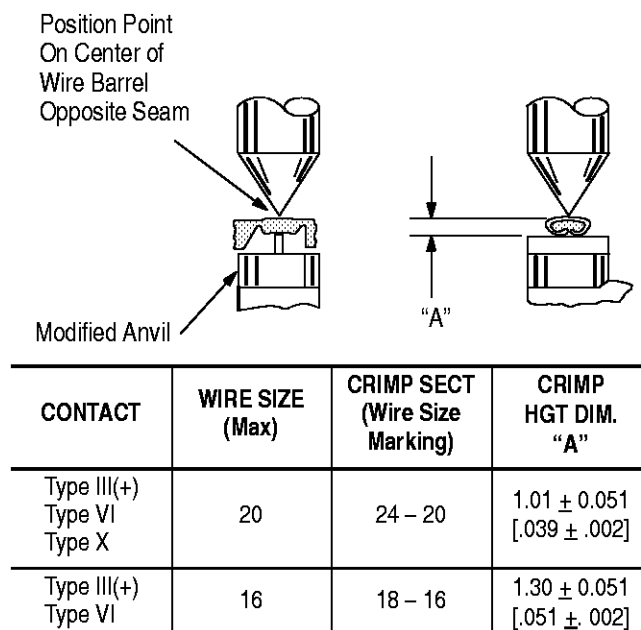

Figure 4
This inspection requires the use of micrometer with a modified anvil as shown in Figure 4. AMP recommends use of Crimp Height Comparator RS-1019-5LP which can be purchased from:
1. Refer to the chart in Figure 4 and select a contact and a wire (maximum size) for each crimp section listed in the chart.
3. Using a crimp height comparator, measure wire barrel crimp height as shown in Figure 4. If the crimp height conforms to that shown in the chart, the tool is considered dimensionally correct. If not, return the tool to AMP for evaluation and repair (refer to Section 5, REPLACEMENT AND REPAIR).